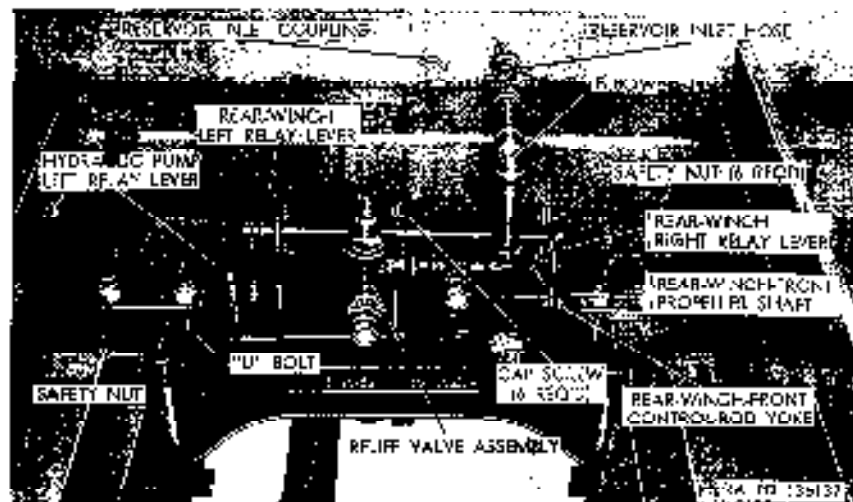

Figure 275. Rear view of forward end of wrecker body with cross member raised 1142.
- (2) *Winch-drive.* Power for operating the winch is supplied by the truck engine through a power-take-off (par. 208a(4)), which is connected by a propeller shaft to the power divider (par. 208a(4)). A forward propeller shaft (fig. 275) and a rear propeller shaft (fig. 276), connected by a universal joint which is supported by a pillow block (M, fig. 277), extend from the power divider to the bearing assembly (fig. 278) bolted to the rear of the wrecker body. A drive sprocket secured to the rear end of the bearing assembly shaft is connected by a drive chain to the driven sprocket secured to the front end of the winch drive shaft. The driven sprocket is secured to the drive shaft by a shear pin which prevents damage to the winch resulting from overloading.
- (1) *Control linkage.* The rear winch control linkage is composed of the winch shift lever (fig. 276), rear control rod (fig. 276), relay levers (fig. 275), and front control rod. The rear end of the rear control rod is connected to the lower end of the winch shift lever by a yoke and pin. The front end of the rear control rod is connected to the left relay lever (fig. 275) by a yoke and pin. The rear end of the front control rod is connected to the right relay lever (P, fig. 274) by a yoke and pin. The front end of the front control rod